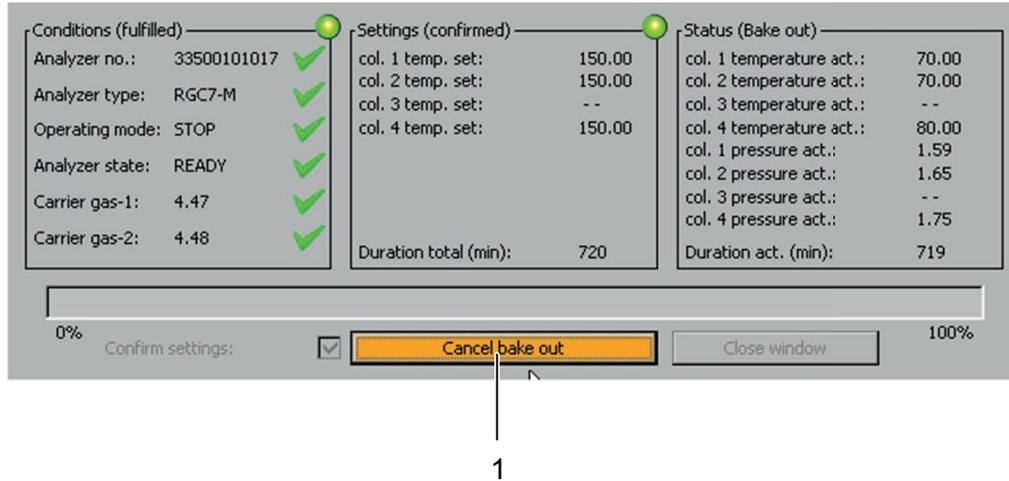

Fig. 39: Menu Bake-out – Cancel bake-out procedure
- ➔ The button **Confirm start bake-out procedure** changes to **Cancel bake-out procedure** (cf. fig. 39).
- ▶ To cancel the button bake-out procedure, press the button **Cancel bake-out procedure** (fig. 39, no. 1).